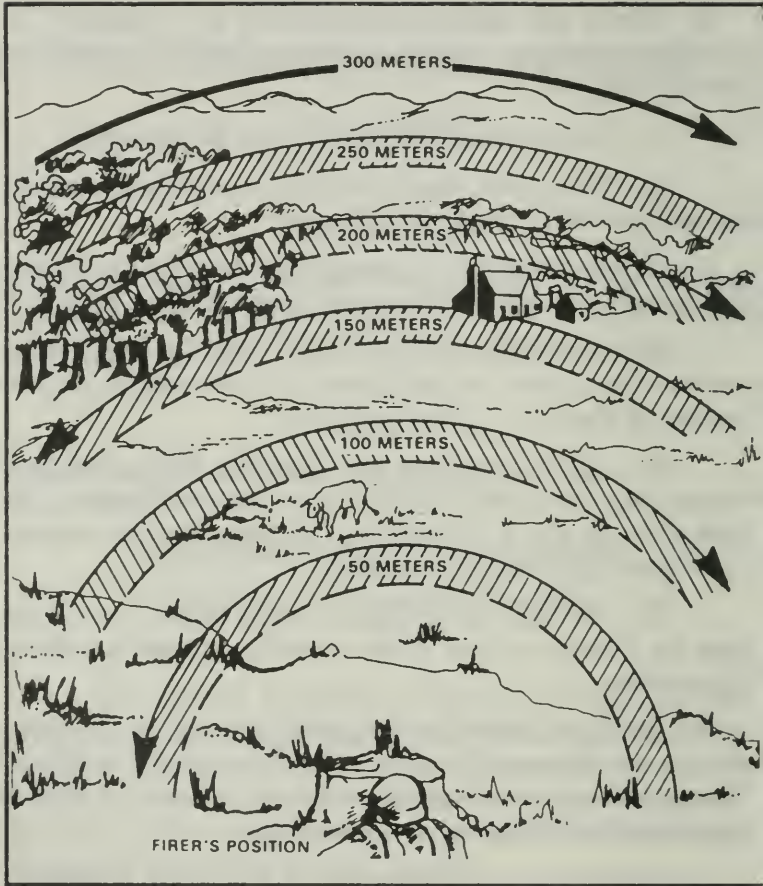

Figure 113. Searching the terrain in overlapping strips.
(1) The quick check takes about 30 seconds.
(2) The quick check is made by quick glances at specific points throughout the area.
c. If the soldier fails to locate activity during the initial search, he begins a systematic search (Figure 113)
(1) Begin at either flank and systematically search the terrain to the front in a 180-degree arc, 50 meters in depth.
(2) After reaching the opposite flank, begin a second 50-meter strip farther out but overlapping the first strip by about 10 meters. Continue in this manner until the entire area is searched.
(3) To take advantage of side vision, focus the eyes on specific points while searching from one flank to the other.